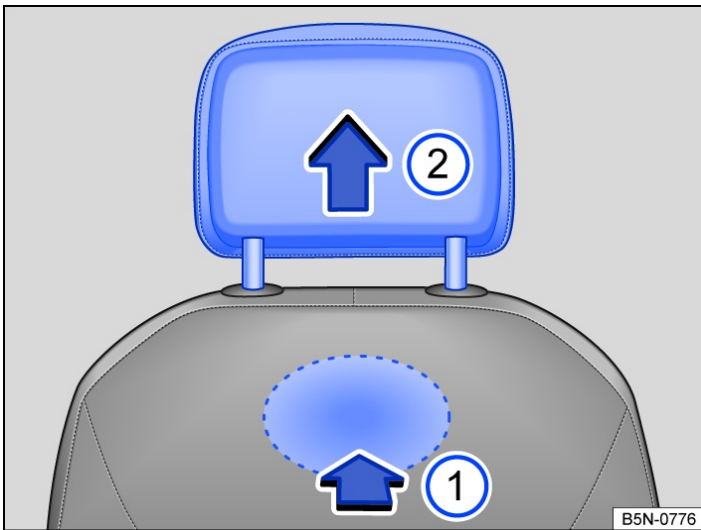

Fig. 1 Front head restraint: removing.
- To release the head restraint, feel for the recess in the marked area on the rear side and press it in the direction of the arrow → Fig. 1 ¹.
- Pull the head restraint out in the direction of the arrow → Fig. 1 ².